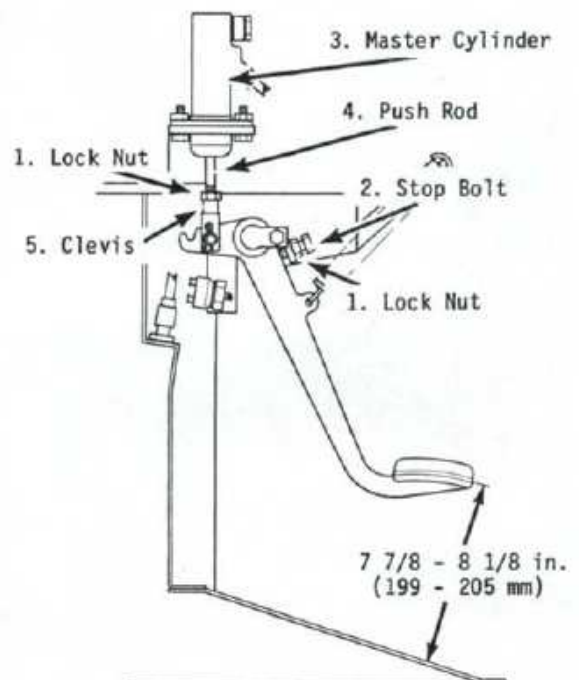

Fig. 81—View showing engine clutch pedal height adjustment on models equipped with cab. Refer to text for procedure.
**98. PEDAL HEIGHT.** To adjust the clutch pedal height on models with cab, disconnect line from master cylinder. Unbolt master cylinder and loosen locknut (1—Fig. 81) on push rod (4). Loosen locknut on stop bolt (2), then turn stop bolt counterclockwise several turns. Raise master cylinder and rotate push rod with fingers as required. Install master cylinder and tighten retaining bolts. Measure distance from floor pan (mat removed) to pedal as shown in Fig. 81.